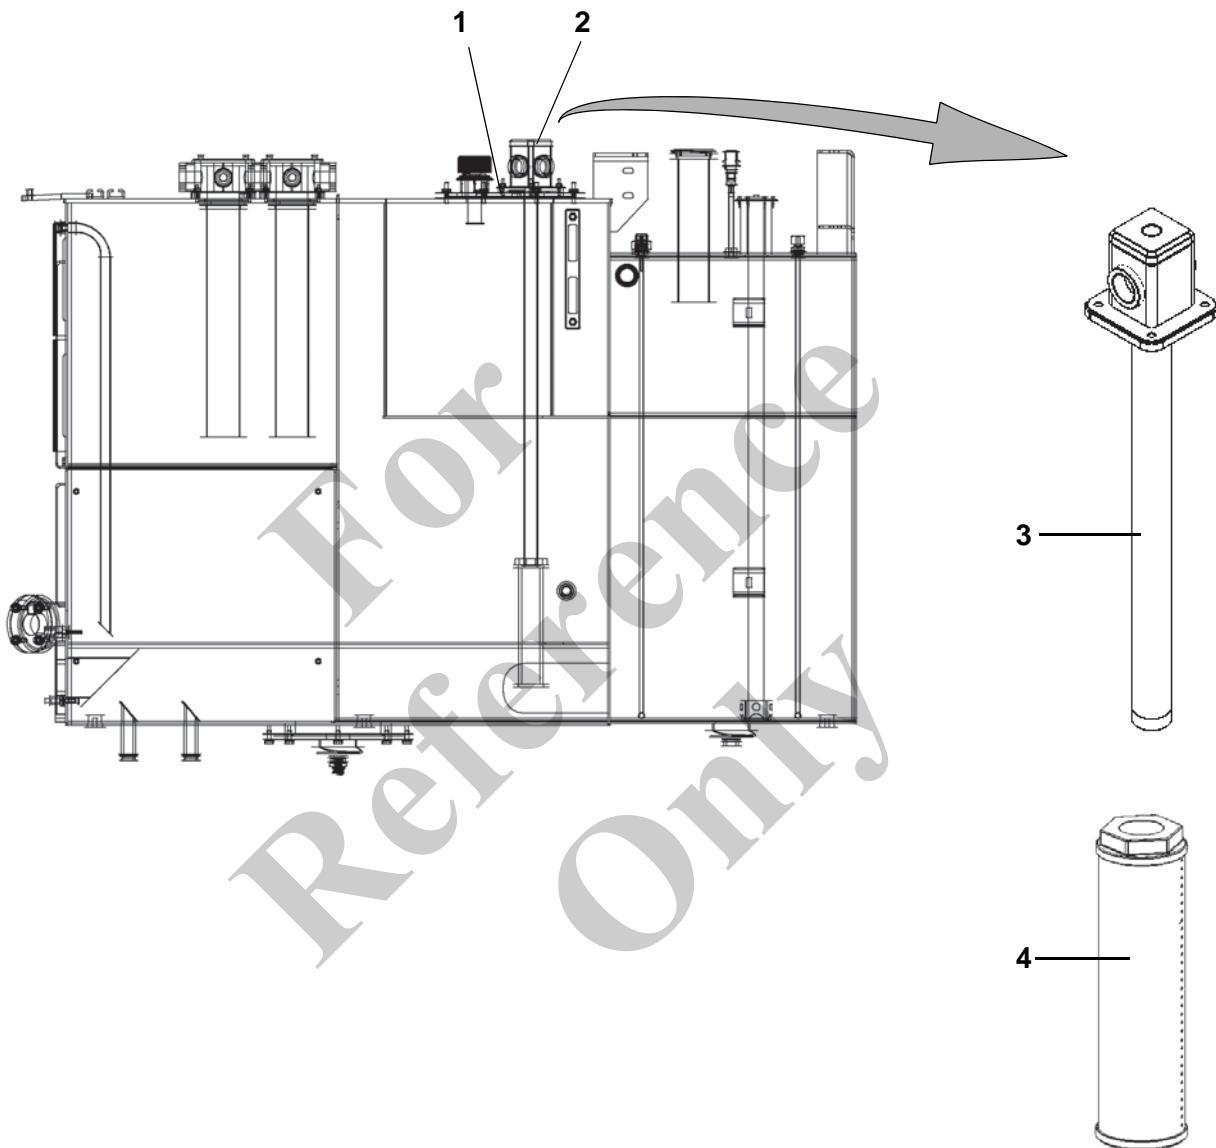

Fig. 19 Leakage oil filter
| 1 | Unscrew the hex nuts (1) in Fig. 19. |
| 2 | Pull out the leak oil filter (2) in Fig. 19. |
| 3 | Unscrew the filter element (4) in Fig. 19 from the return pipe (3) in Fig. 19. |
| 4 | Screw a new filter element (4) in Fig. 19 onto the return pipe (3) in Fig. 19. |
| 5 | Insert the leak oil filter (2) in Fig. 19 into the tank. |
| 6 | Tighten the leak oil filter (2) in Fig. 19 using the hex nuts (1) in Fig. 19. |